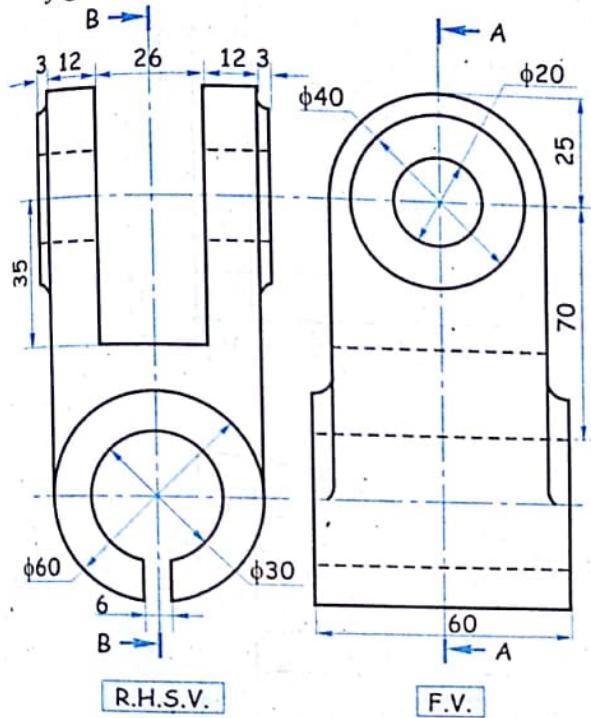

FIG. 13.46
6. Draw : (i) Sectional front view (Section B-B). (ii) Sectional right hand side view (Section A-A). (iii) Top view. Refer figure 13.46.